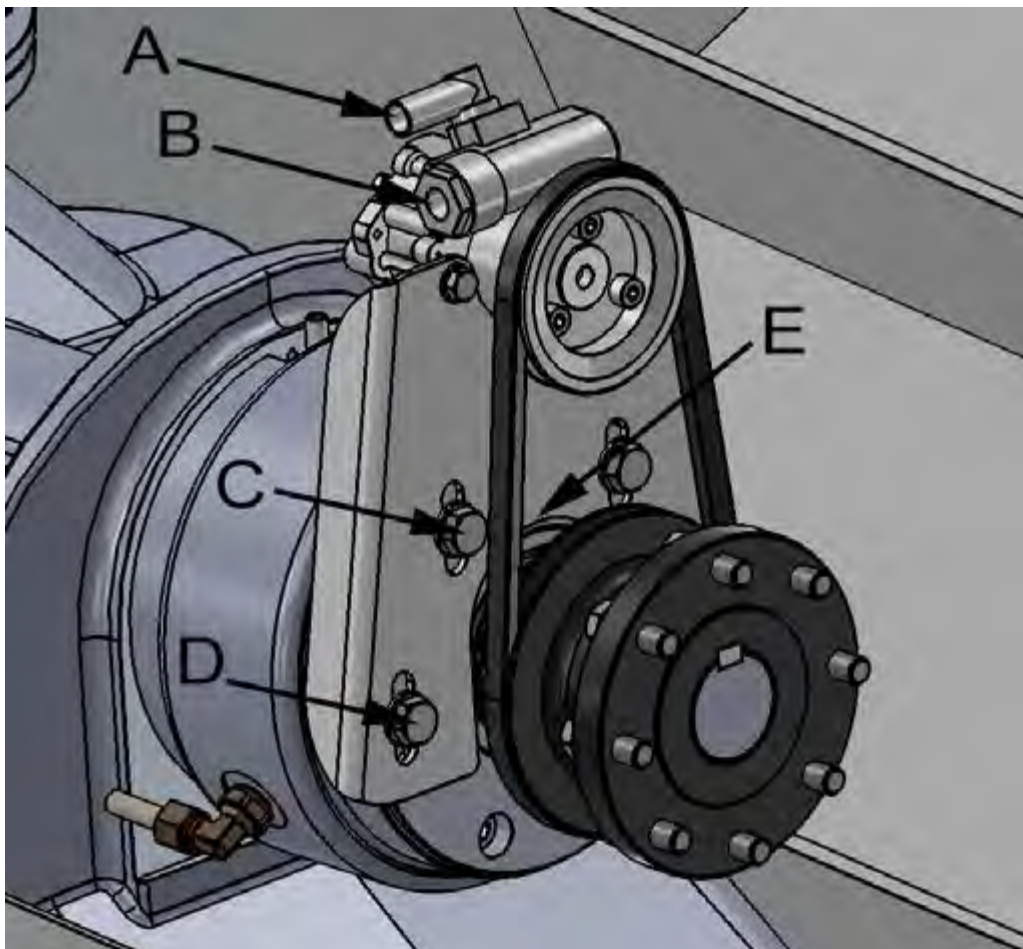
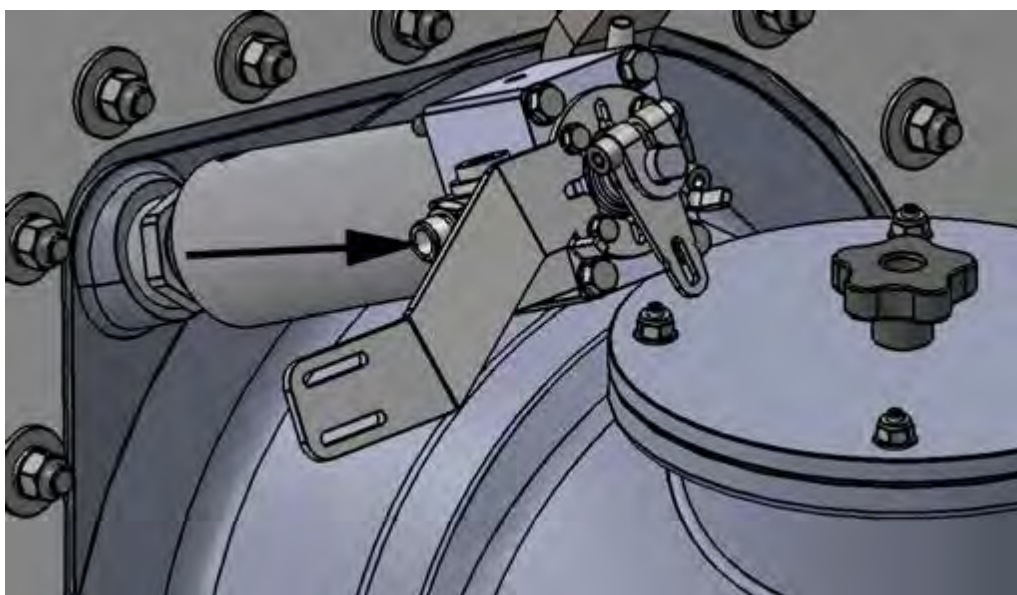

Figure 30. Attaching the hydraulic pump
Figure 31. Pressure hose connector in the hydraulic cylinder
Leave the screws slightly loose. There are a total of four screws, two on both sides (figure 30, points C and D).
3. Lift the rack by cranking it from point E indicated in figure 30.
5. Attach the pressure hose to the connectors (figure 30, point B and figure 31).
6. Attach the oil reservoir hose to connector A (figure 30).